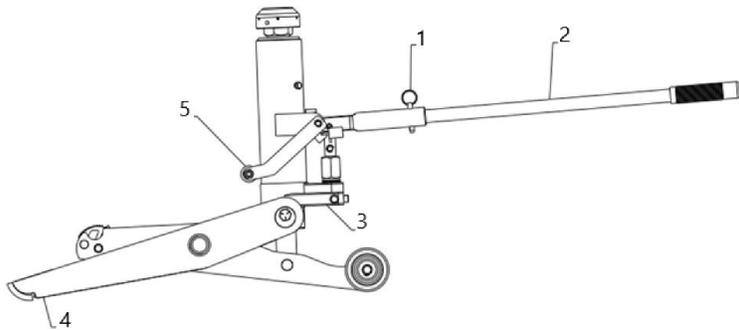

Fig. 2: Lock handle in place to wheel and/or lift jack
2. Insert the jack pump handle into the socket and lock it into place using the quick-release locking pin (see Fig. 2) immediately after inserting it into the socket.
1. Identify the proper lift points on the jack (see Fig. 2). The jack should be lifted using both the toe lift point and the rear frame lift point or using the carrying handle.
5. If the jack pump handle is not in the socket, insert the pump handle and lock it into position with the quick-release locking pin provided. Remove the J-clip from the pump plunger shaft (see Fig. 2).